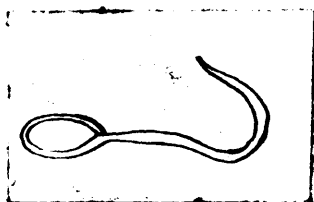

Figure 6.
8. The completed hook. (Figure 6).